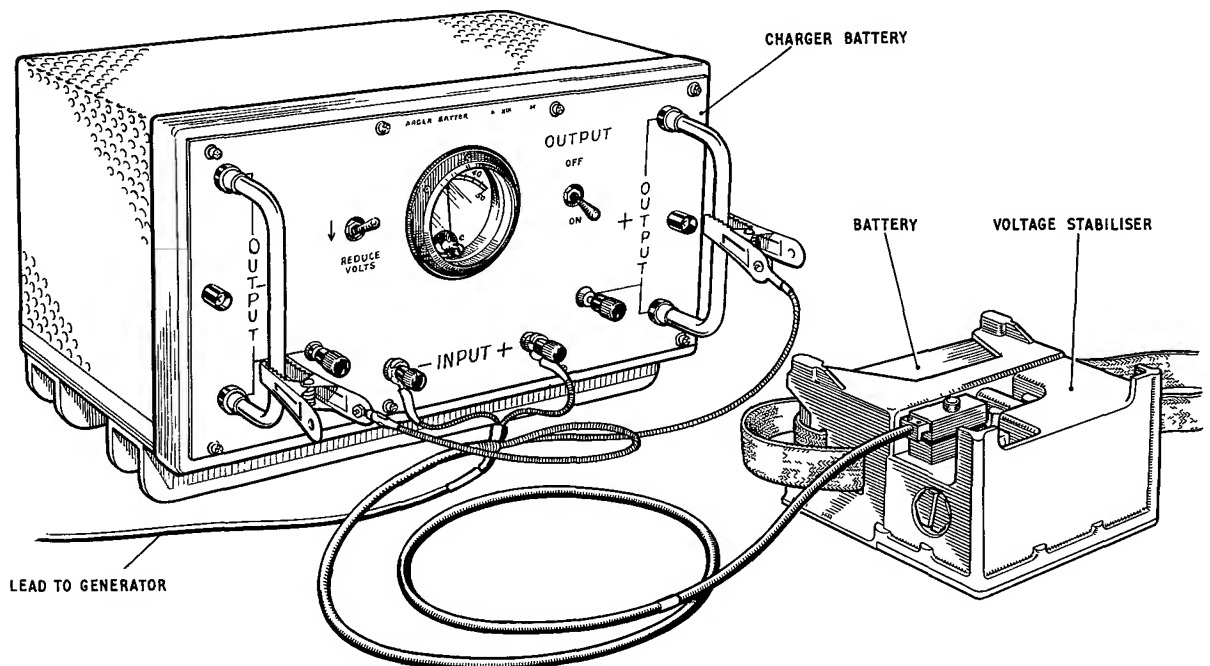

FIG. 27 BATTERY CHARGING WITH THE CHARGER BATTERY
The A13 batteries must NOT be connected direct to the charger nor to the generator. Each battery to be charged is fitted into a stabiliser and the stabiliser is connected to the charger. See fig. 27. Any number of stabilisers from one to five can be connected to one charger.
(2) Using a 300 Watt generator
- (e) The handles of the charger are used as output bus-bars. Connect the required number of stabilisers (any number from one to five), each with its battery in position, to the output bus-bars, observing correct polarity. Fig. 27 shows one stabiliser connected.